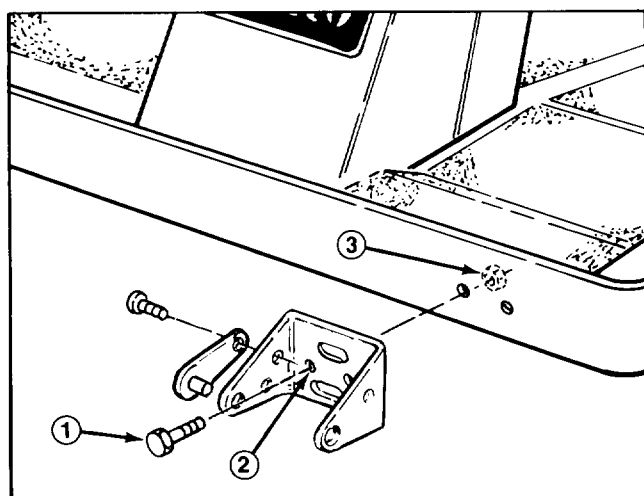

Figure 6
2. To install the mounting bracket, align the bracket with the frame mounting holes. Insert (2) 3/8 x 2-1/4" capscrews through the non-slotted bracket holes and frame mounting holes. Install locknuts and torque to 45-50 ft-lb (Fig. 6).